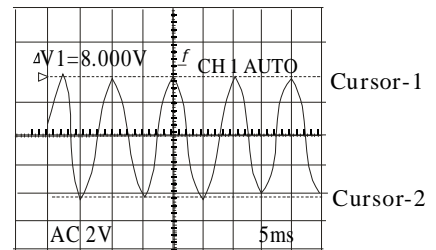

Fig.5-5
5.2.1.3. ΔV measurement (See Fig.5-5)